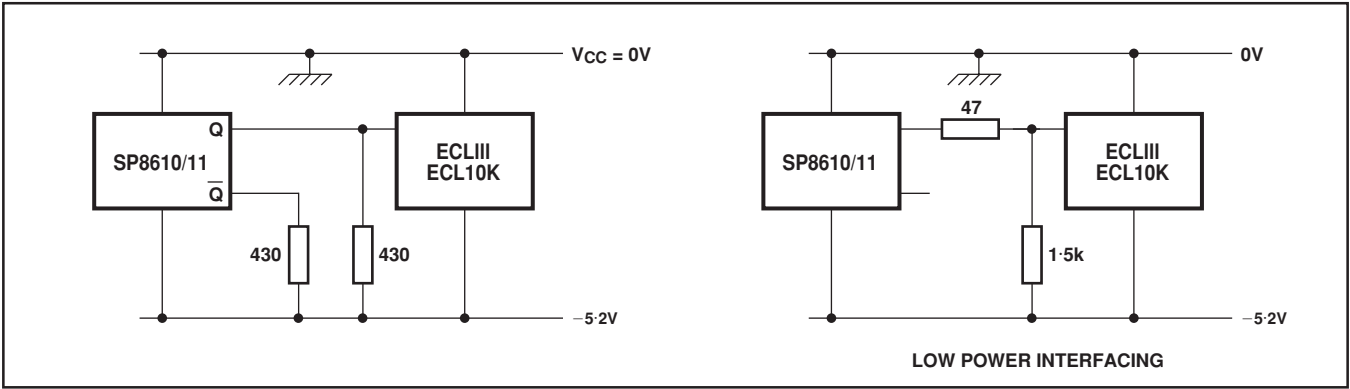

Fig. 7 Interfacing SP8610/11 to ECL10K and ECL111
5. The emitter follower outputs require external load resistors. These should not be less than 330Ω and a value of 430Ω is recommended. Interfacing to ECLIII/10K is shown in Fig. 7.